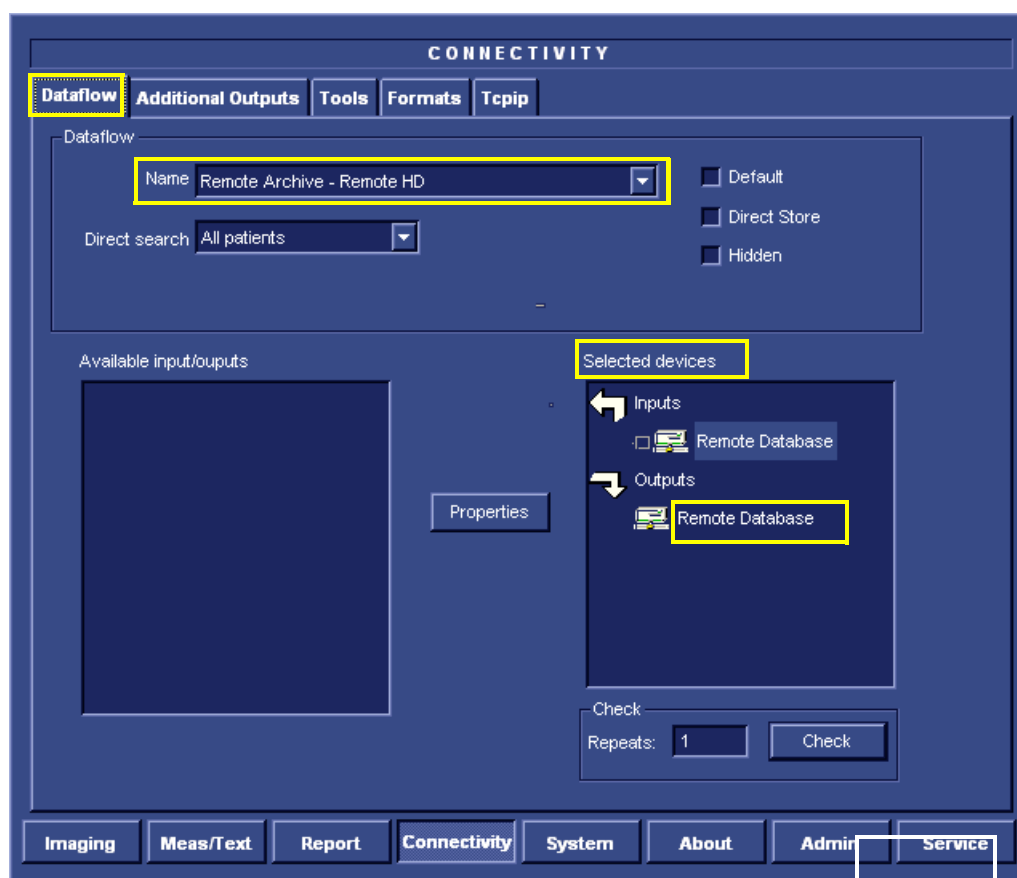

Figure 4-10 Dataflow showing "Remote Database" as the Selected Device
- 2.) Click **Connectivity** and select **Dataflow** - see Figure 4-10.
- 3.) From the Dataflow **Name** field scroll-down list (Figure 4-10), select a dataflow that the user works with in day-to-day operations.
- 4.) Under **Selected devices** (Figure 4-10), select the appropriate device.